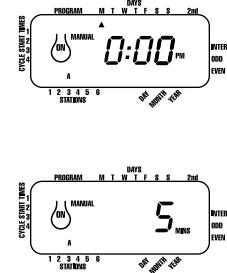

FIGURE 13: Manual Watering Station 3 for Five Minutes
- To skip a station, press **NEXT** until the cursor is blinking over the station number you wish to program. Example: To set station 3 for five minutes, press the **MANUAL** key; then press the **NEXT** key five times to select the manual operation mode and advance to watering for station 3; using the + or - key, set the manual watering duration to five minutes; then press **ENTER** [See Figure 13].